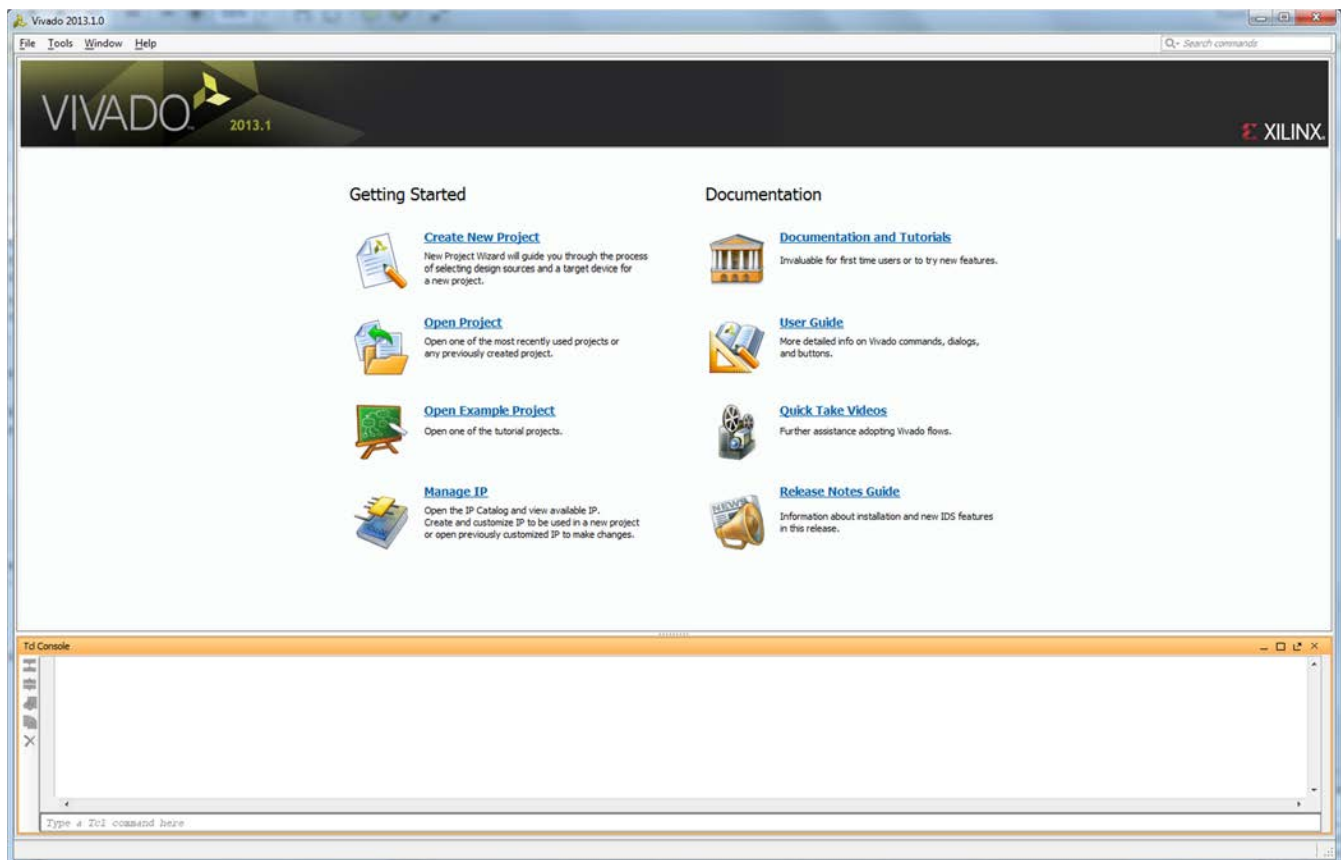
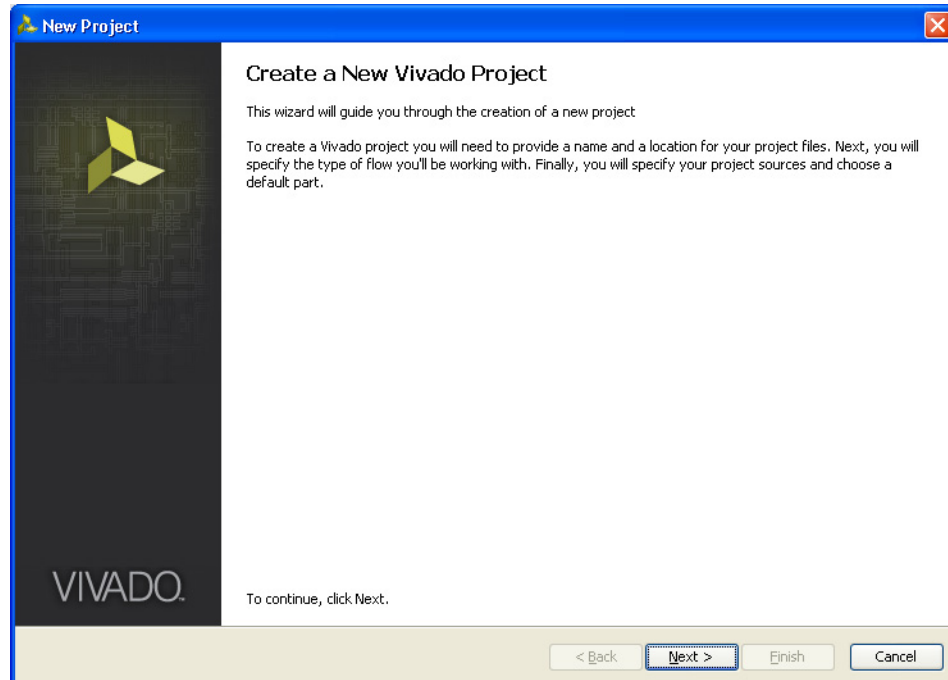

Figure 4-1: Vivado Tool
Figure 4-2: Create a New Vivado Tool Project
1. Invoke the Vivado IP (see Figure 4-1).
2. To create a new project, click the **Create New Project** option shown in Figure 4-1 to open the page as shown in Figure 4-2.